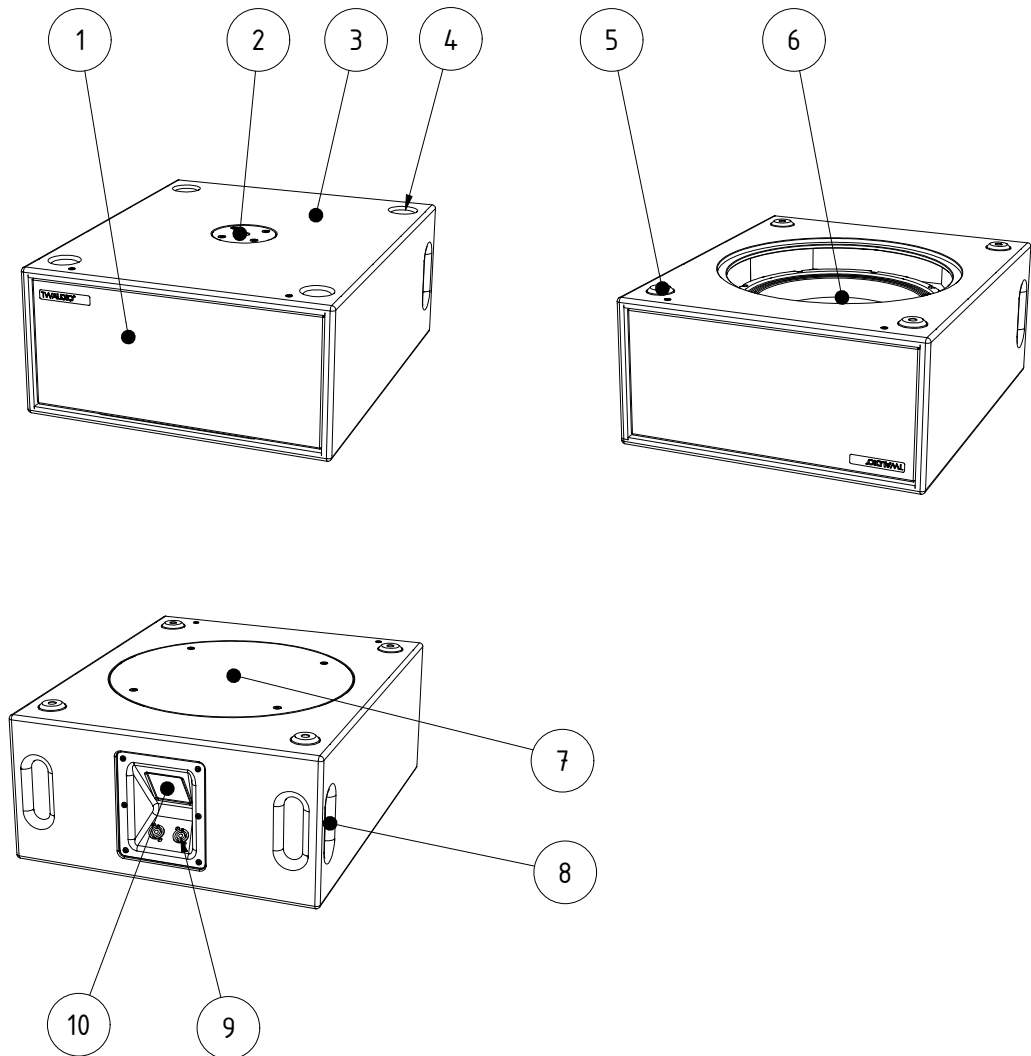

Figure 2.1 - Overview
Make sure that the maximum load of 50kg / 110lbs for the M20 pole mount flange is not exceeded! Figure 2.1 – Item 2.
The M20 pole mount flange (figure 2.1- item 2) is not designed for side forces once mounted – do not apply any pressure from the sides.
Please note that only centered loads are allowed to be placed on the M20 pole mount flange – Figure 2.1 – Item 2.